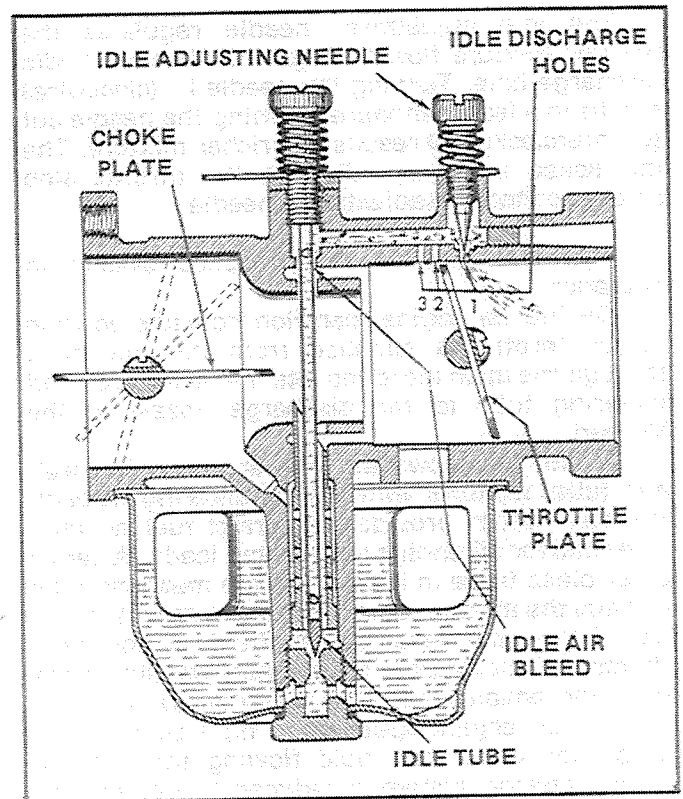

Figure 7
Figure 7 shows the idle system of the carburetor. Fuel is drawn from the main metering well through the idle tube. It is then mixed in the channel leading to the idle discharge hole with air entering through the idle air bleed. At a slow idle speed, the throttle plate is positioned, as shown, to expose only the Number 1 idle discharge hole to engine vacuum. Air is admitted to the idle channel through the Number 2 and 3 idle holes. This air mixes with the fuel/air mixture in the channel and is discharged through the Number 1 idle hole.
8. Install the throttle stop screw and spring. Adjust the screw to open the throttle slightly, but not far enough to uncover the Number 2 idle discharge hole. (See Figure 7).